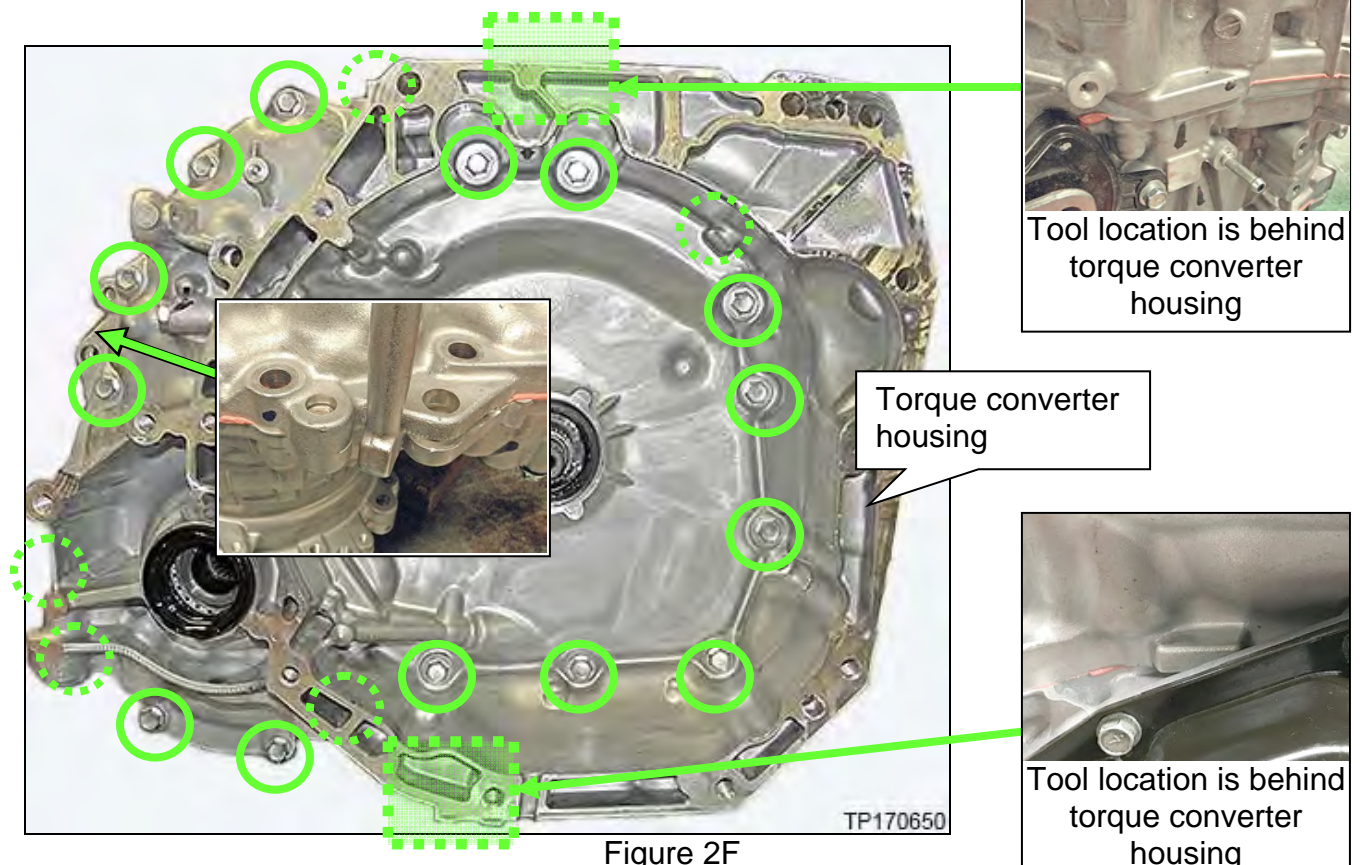

Figure 2F
3. Remove the nineteen (19) bolts shown in Figure 2F from the torque converter housing.
NOTE: Some bolts are not visible in Figure 2F. Green circles give the general area of bolt locations.
- Use a Slide Hammer (J-25721-A) at the three locations shown in Figure 2F if needed.